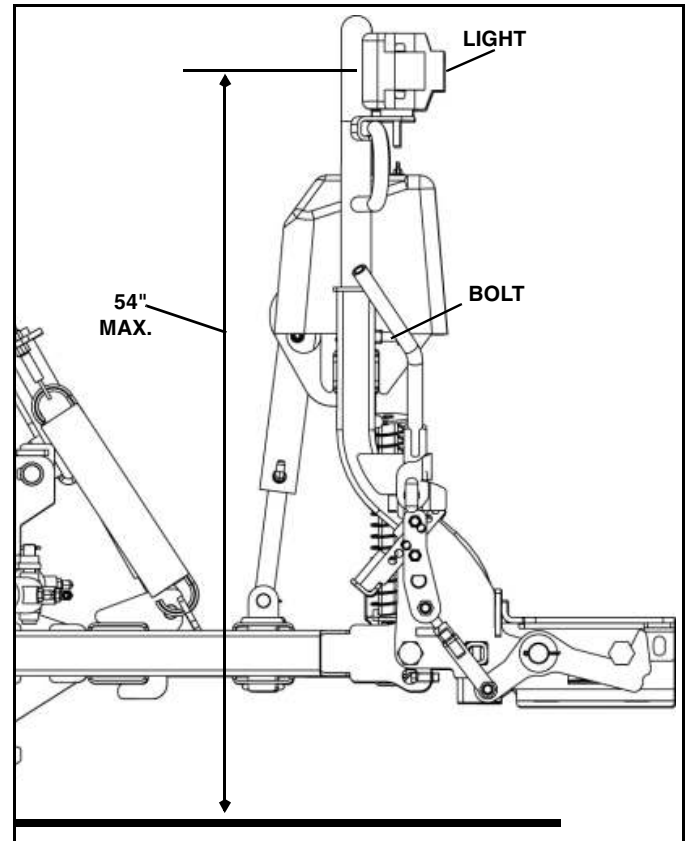

Figure 1-32
36. The height of the light bar is adjustable. Position light bar so that center of lights is 54" maximum off the ground when plow is on the ground. The lights should clear the plow when it is fully raised. (See Figure 1-32).